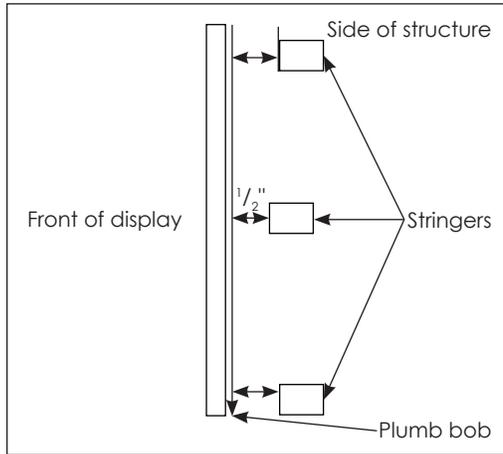
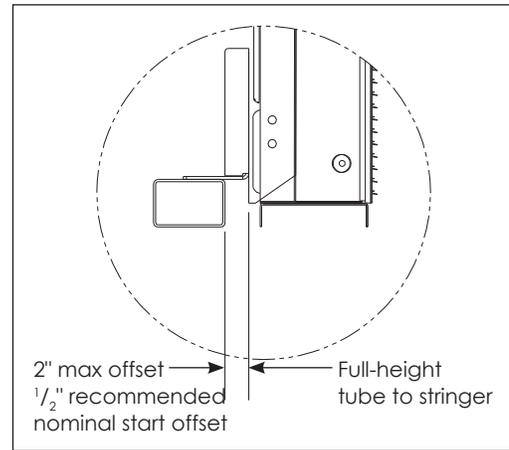

Figure 14: Verify Plumbness of Stringer Faces
Figure 15: Verify Cabinet-to-String Offset
- Verify the plumbness of the stringer faces. Place a plumb bob against the front of the top stringer and drop the plumb bob down to the bottom stringer, measuring left to right down the length of each stringer and the middle. When installing sections, leave enough room between the full-height tubes and the mounting structure to account for any variation in plumbness. Refer to **Figure 14** and **Figure 15** when it is time to hang the sections.